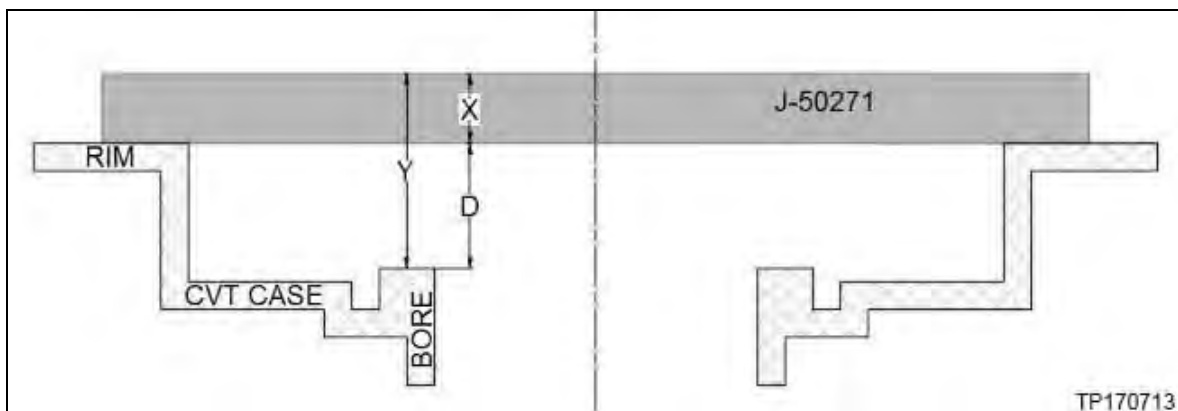

Figure 5M
**NOTE:** Only if a Gauge Block (J-50271) is not available, measurement "X" (Figure 5M, page 56) will need to be determined for the measuring bar being used. This can be done either with a set of calipers or with Digital Depth Gauge (J-50272).
8. Measure the average distance (**Y**) shown in Figure 5M as follows: